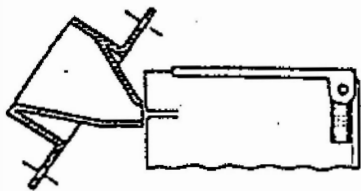
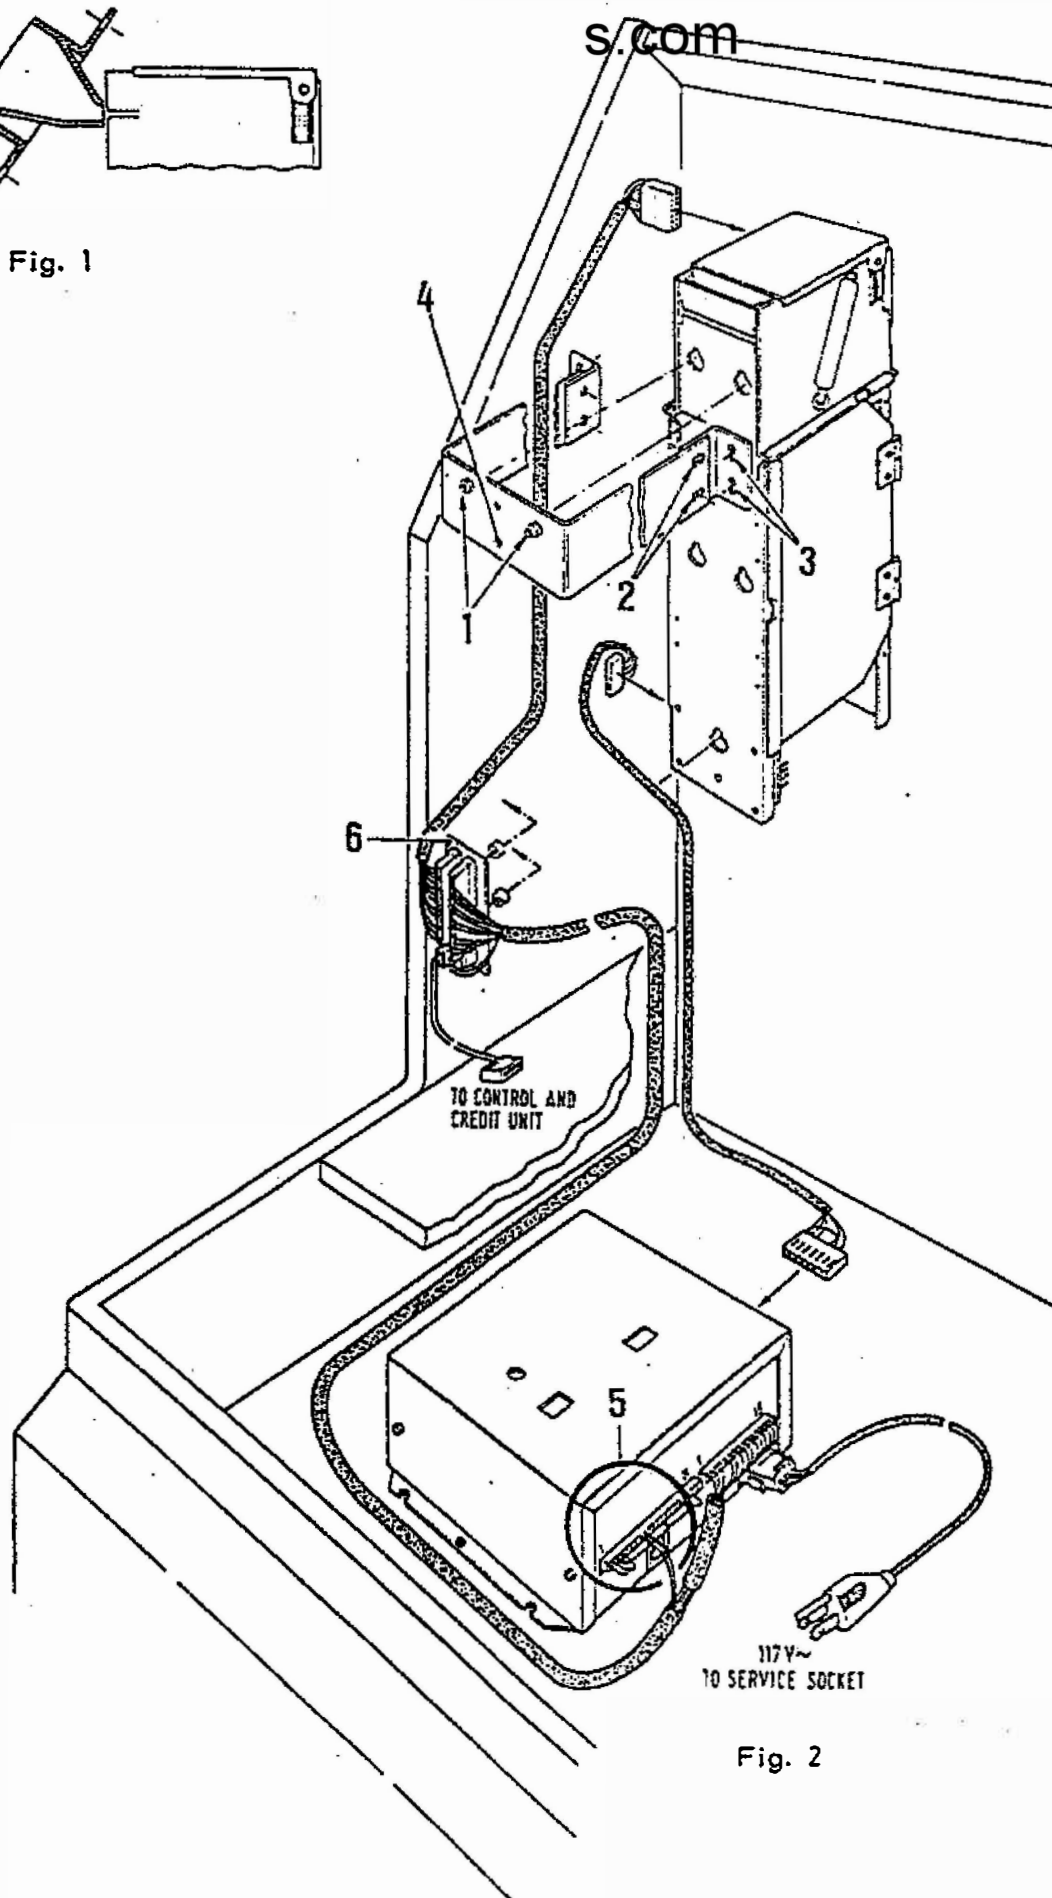

Fig. 1
Fig. 2
- Install chute in place of cover in lid (see Fig. 1).
- Hang dollar bill validator into the 2 attachment studs (Fig. 2 / Pos. 1).
The depth can be adjusted at Fig. 2 / Pos. 2.
The height should be adjusted at Fig. 2 / Pos. 3 so that the dollar bill validator is aligned with the chute in the lid and is guided exactly into the acceptor slot (Fig. 1).
Secure dollar bill validator with sheet metal screws F 3.9 x 6.5 at Fig. 2 / Pos. 4.
- Install dollar bill adapter PCB (Fig. 2 / Pos. 6) on 2 spacers with wood screws to the left inside of cabinet.
- Put 2 contacts from the harness (as can be seen in Fig. 2 / Pos. 5) into Plug Housings 6 and 7 of the 21-pole plug.
- Move stacker backwards into its final position until the latch (Fig. 1) locks in at the second position.